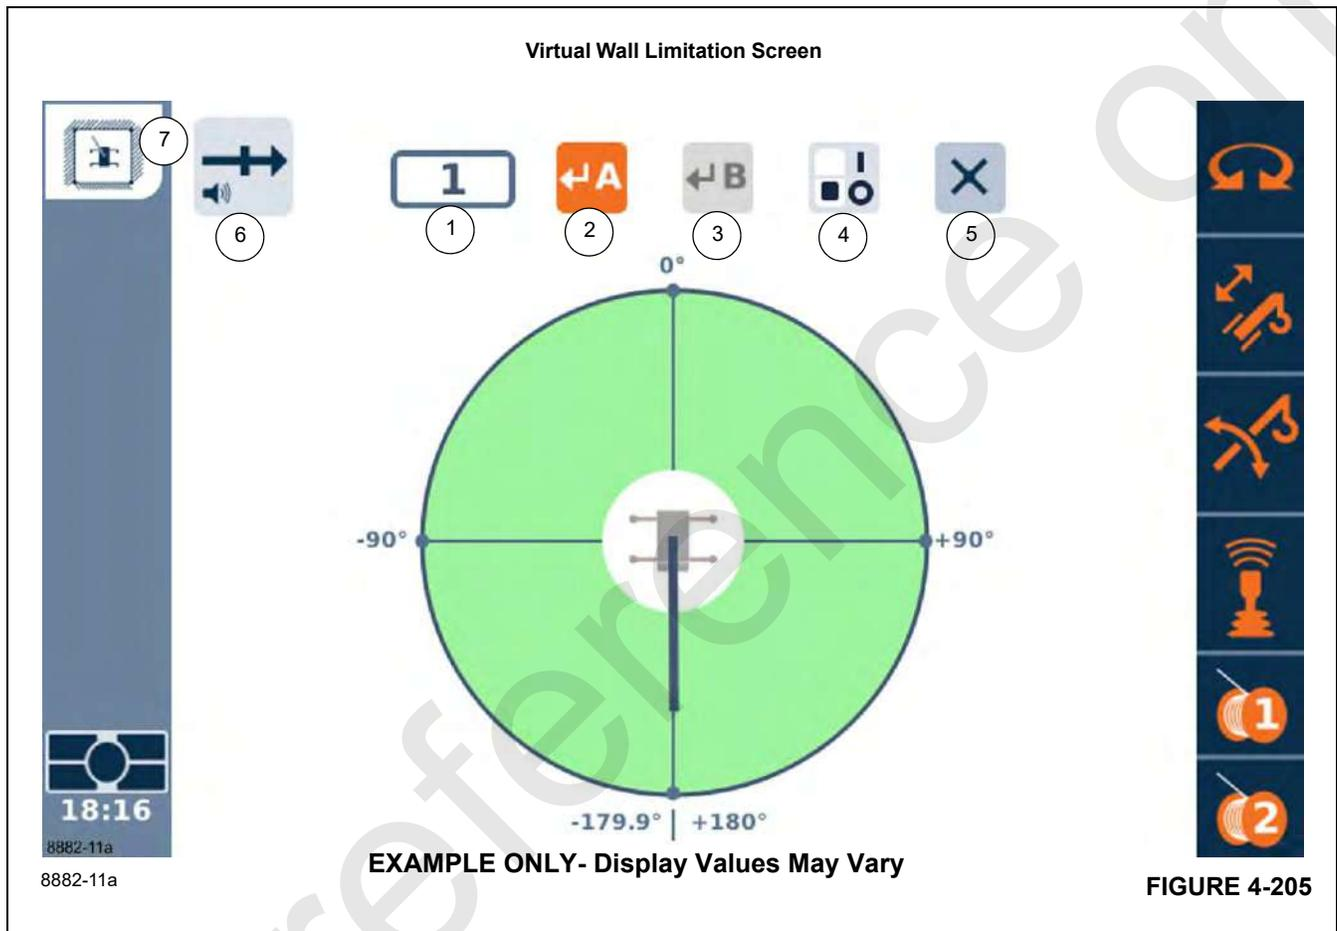

FIGURE 4-205
If the Virtual Wall Limitation is selected from the menu of WRL Limitations, then the Virtual Wall Limitation Screen will be shown(7), (Figure 4-205).
As the arrow keys are pressed, the highlight will move between the objects, with the color orange typically meaning that the object is selected and can be affected by subsequent actions. In (Figure 4-205), one can see that the wall Point "A" Symbol is selected since it has the orange color highlighting.
1. Select the Virtual Walls Limitation Screen (6), (Figure 4-198) on the Main Menu Screen (and in this case there would not be any virtual walls shown as defined or active) as noted in the Virtual Walls Number (1), (Figure 4-205). (Note: The number "1" indicates the number of virtual walls and there can be up to "5" five virtual walls defined.)
3. Use the Right Arrow (Figure 4-206) Function key to highlight the Accept Crane Position Point A Symbol (2), (Figure 4-205).
4. Use an OK Button (Figure 4-205) to accept the current crane position to be Point A (2), (Figure 4-205). The location of the point should now be shown on the screen with a label of '1a' as indicated in the yellow box in the sample in (Figure 4-206).
5. Position the crane so that the hook is located at the position to define the second point of the Virtual Wall (Point B), or Item 3 (Figure 4-205). **NOTE:** The two points may not be so close to each other that a virtual wall is not clearly defined. The two points should be at least 3.3m (10 ft) apart.
6. Use the Right Arrow Function key to highlight the Accept Crane Position Point B Symbol (3), (Figure 4-205).
1. Be sure you are on the Virtual Walls Limitation Screen Icon (7), (Figure 4-205).
2. Use the Right Arrow function key to highlight the Virtual Wall Number Item (1), (Figure 4-205).
4. Position the crane so that the hook is located at the position to define the first point of the Virtual Wall (Point A or Item 2) as shown in (Figure 4-205).
5. Use the Right Arrow Function key to highlight the Accept Crane Position Point A Symbol (2), (Figure 4-205).
6. Use an OK Button to accept the current crane position to be Point A as shown in (Figure 4-205). The location of the point should now be shown on the screen with a label that shows the wall number and the letter 'a' as shown in the yellow highlight in the sample (Figure 4-206).
7. Position the crane so that the hook is located at the position to define the second point of the Virtual Wall (Point B or Item 3), (Figure 4-205).
8. Use the Right Arrow Function key, if needed, to highlight the Accept Crane Position Point B Item (3), (Figure 4-205).
9. Use an OK Button to accept the current crane position to be Point B (3), (Figure 4-205). The location of the point should now be shown on the screen with a label (1b) as shown in yellow highlight in (Figure 4-206).
2. Use the Right Arrow key to highlight the Virtual Wall Number (1), (Figure 4-205).
3. If the wall number shown is not the correct number for wall to be disabled, use an OK Button (Figure 4-205) to allow you to modify the value. (In other words, be sure that the number of walls you set matches the Virtual Walls Number (1), (Figure 4-205).
5. Use the Left Arrow and/or Right Arrow keys or the Jog Dial to highlight the Enable/Disable Switch Symbol (4), (Figure 4-205).
2. Use the Right Arrow Function to highlight the Virtual Wall Number (1), (Figure 4-205).
3. If the wall number shown is not the correct number for wall to be disabled, use an OK Button to allow you to modify the value. (In other words, be sure that the number of walls you set matches the Virtual Walls Number (Item 1), (Figure 4-205).
4. Use the Left Arrow and/or Right Arrow key to highlight the “X” or the Remove Virtual Walls Symbol (5), (Figure 4-205). Use an OK Button (Figure 4-205) or the Jog Dial to delete the wall.